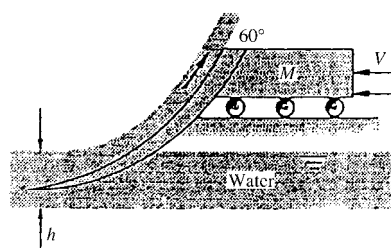

Fig. P3.108
**3.108** A rocket sled of mass  $M$  is to be decelerated by a scoop, as in Fig. P3.108, which has width  $b$  into the paper and dips into the water a depth  $h$ , creating an upward jet at  $60^\circ$ . The rocket thrust is  $T$  to the left. Let the initial velocity be  $V_o$ , and neglect air drag and wheel friction. Find an expression for  $V(t)$  of the sled for (a)  $T = 0$  and (b) finite  $T \neq 0$ .